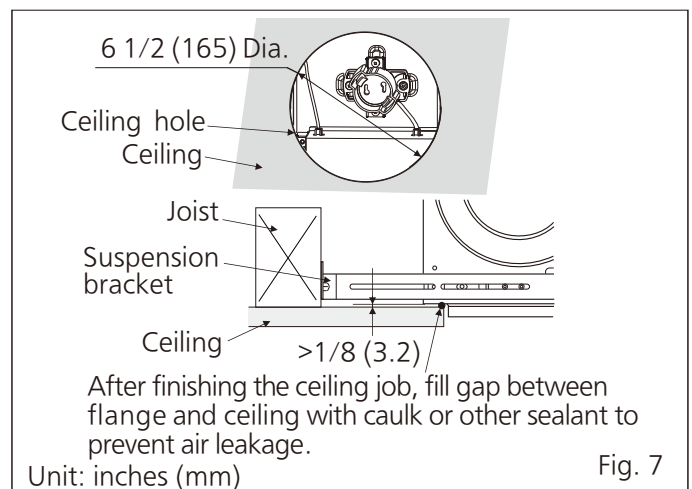

Fig. 7
- Finish ceiling work. A circle ceiling hole (6 1/2 inches (165mm) dia.) should be cut. And make sure there will be a gap (>1/8 inches (3.2mm)) between bottom of fan body and ceiling. (Fig. 7)